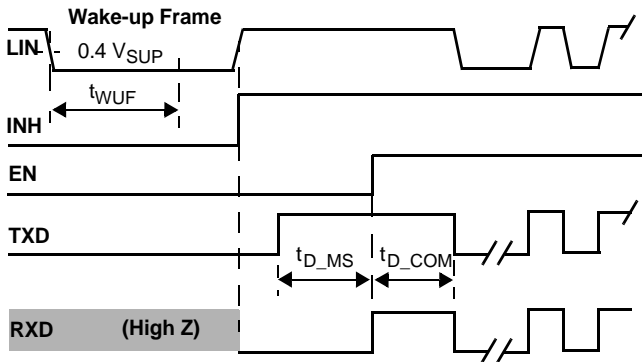

Figure 11. LIN Bus Wake-up and Normal Baud Rate Selection (1.0 kbps to 20 kbps)
11. See Figures 11 and 12, 11.
The LIN bus wake-up is recognized by a recessive-to-dominant transition, followed by a dominant level with a duration greater than 70 μ s, followed by a dominant-to-recessive transition. This is illustrated in Figures 11 and 12. Once the wake-up is detected, the 33661 enters the Awake Transitional mode, with INH High and RXD pulled Low.